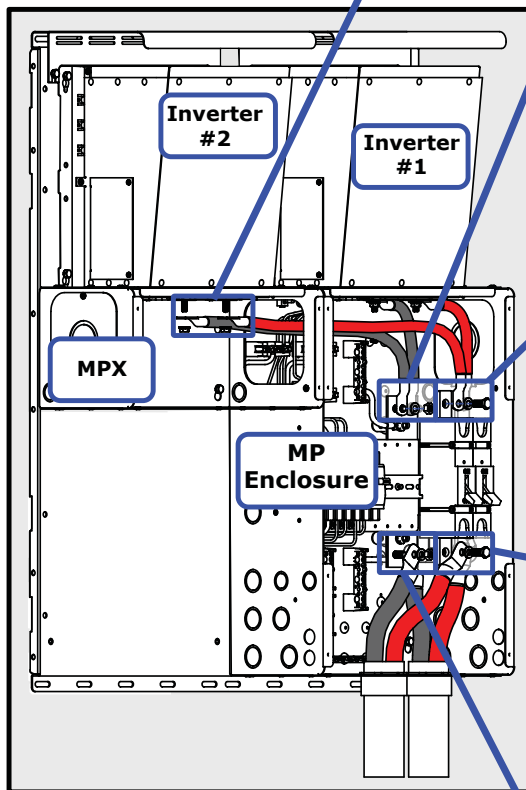

Figure 3-17, DC Cable Connections
Before proceeding with the DC wiring, review the instructions in Figure 3-17 to ensure proper DC cable stacking and connections. Do not put anything between the DC cable ring lug and the battery terminal post or the flat metal part of the inverter's DC terminal. When connecting the DC cable to the battery or inverter DC terminals, the cable should be placed directly against the inverter or battery terminals. Incorrectly installed hardware causes a high resistance connection which could lead to poor inverter/charger performance, and may melt the cable and terminal connections.
7. Ensure the DC wire connections (to the inverter, DC circuit breaker, and DC shunt) are flush on the surface of the DC terminals and the hardware used to hold these connections are stacked correctly (see Figure 3-17); and then securely tighten these connections.